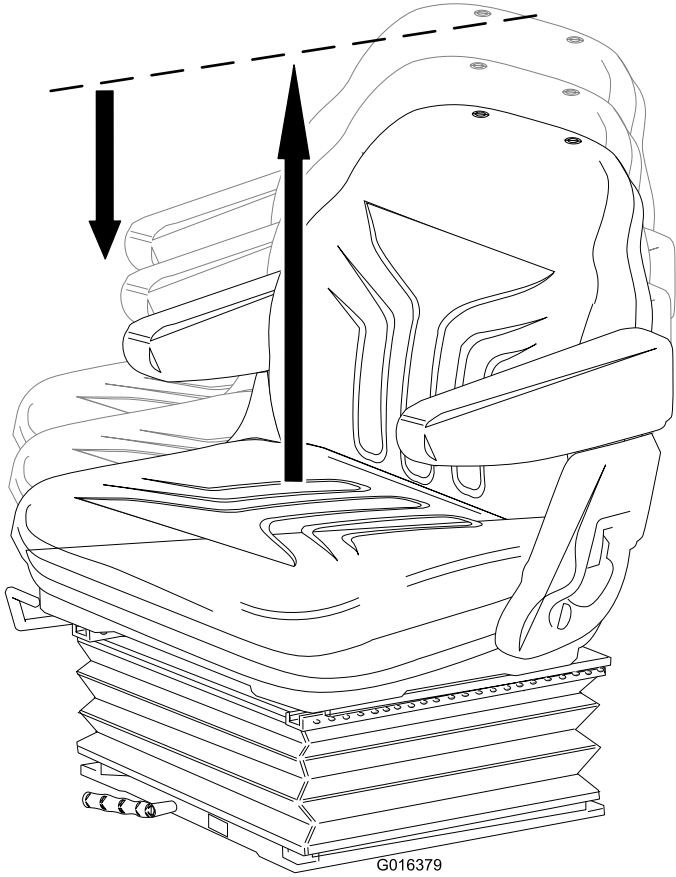

Figure 14
- **Height adjustment:** Manually lift the seat for incremental height adjustment. To lower the seat, lift it beyond the highest setting, then allow it to drop to the lowest setting (Figure 14).